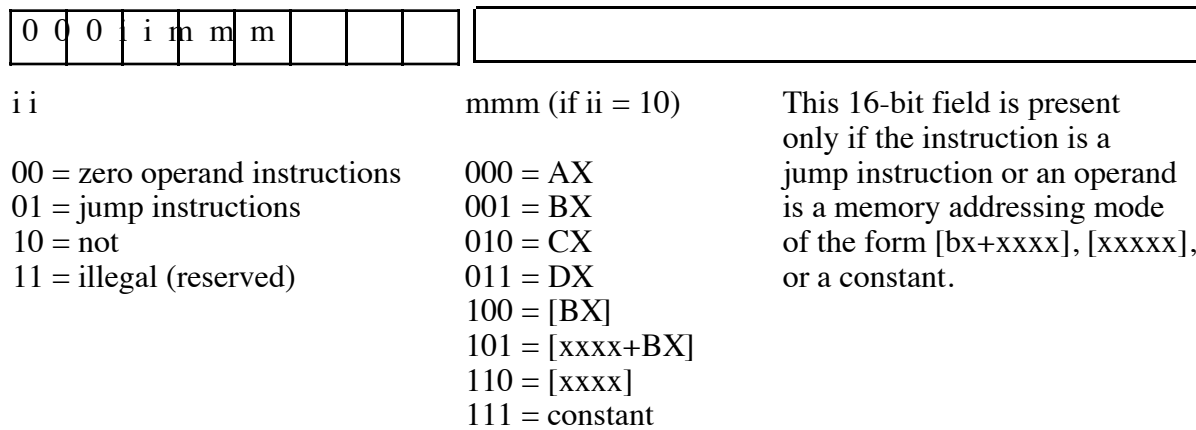
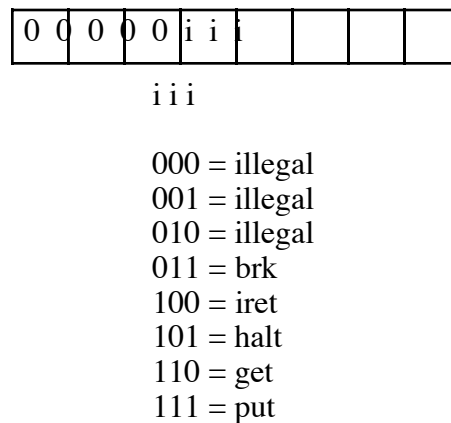

Figure 5.4 Single Operand Instruction Encodings
Figure 5.5 Zero Operand Instruction Encodings
The *special* opcode allows the x86 CPU to expand the set of available instructions. This opcode handles several zero and one-operand instructions as shown in Figure 5.4 and Figure 5.5.
There are four one-operand instruction classes. The first encoding (00) further expands the instruction set with a set of zero-operand instructions (see Figure 5.5). The second opcode is also an expansion opcode that provides all the Y86 *jump* instructions (see Figure 5.6). The third opcode is the NOT instruction. This is the bitwise logical not operation that inverts all the bits in the destination register or memory operand. The fourth single-operand opcode is currently unassigned. Any attempt to execute this opcode will halt the processor with an illegal instruction error. CPU designers often reserve unassigned opcodes like this one to extend the instruction set at a future date (as Intel did when moving from the 80286 processor to the 80386).
The last group of instructions, the zero operand instructions, are the easiest to encode. Since they have no operands they are always one byte long and the instruction uniquely specifies the opcode for the instruction. These instructions always have *iii*=%000, *rr*=%00, and *mmm* specifies the particular instruction opcode (see Figure 5.5). Note that the Y86 CPU leaves three of these instructions undefined (so we can use these opcodes for future expansion).